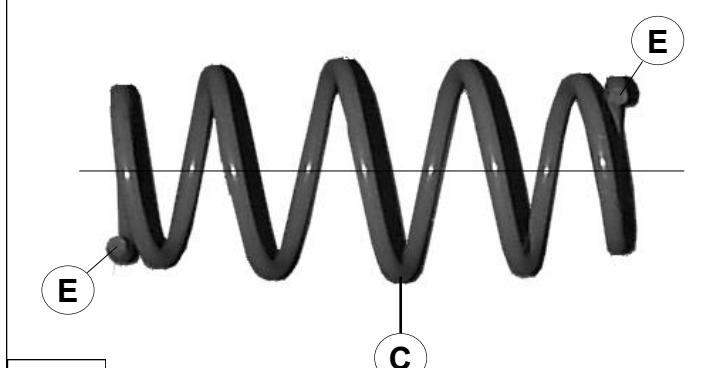

fig.3.
9. Fit auxiliary spring **C** on rubber **R**, with the ends **E** to the front of the car. See fig.3.